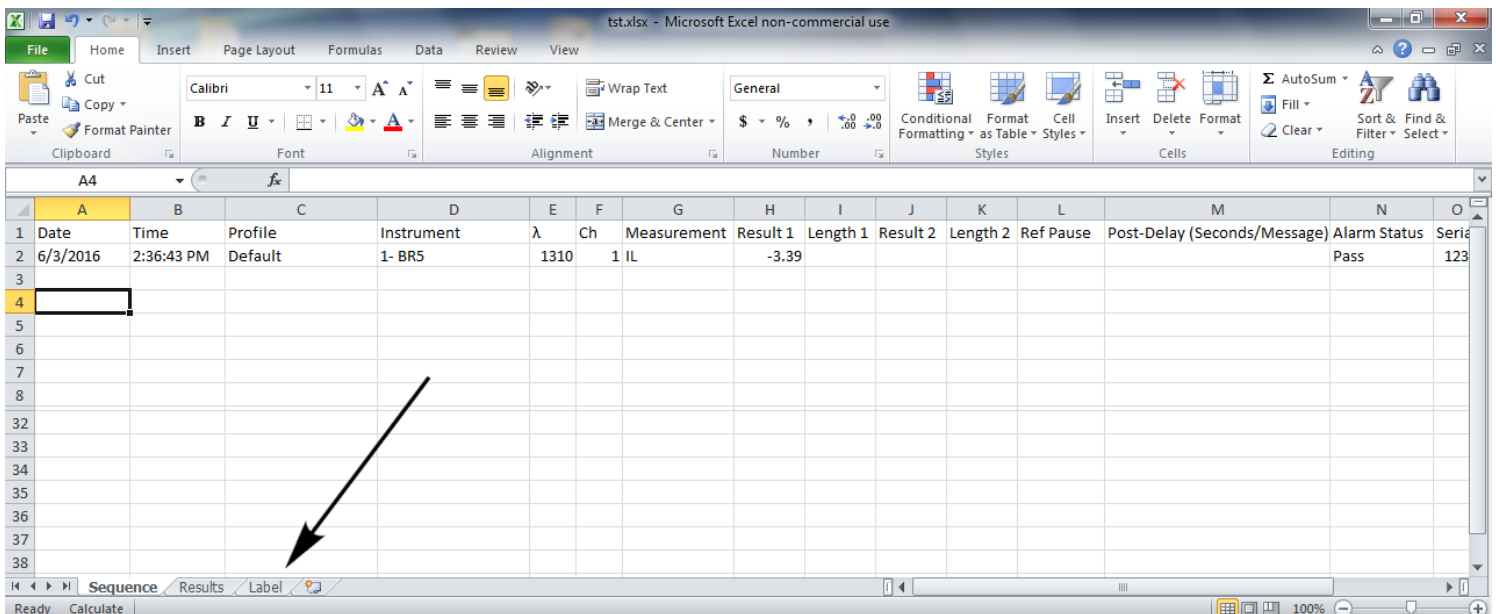

Figure 4.7: An example of a custom Excel template file. Press the new Worksheet button to begin editing a custom Excel Template.
- To create a custom template the user must first start from a saved Excel results file (Fig. 4.7).
- In Fig. 4.7 a new tab called 'Label' has been added. This is where the customization should occur.